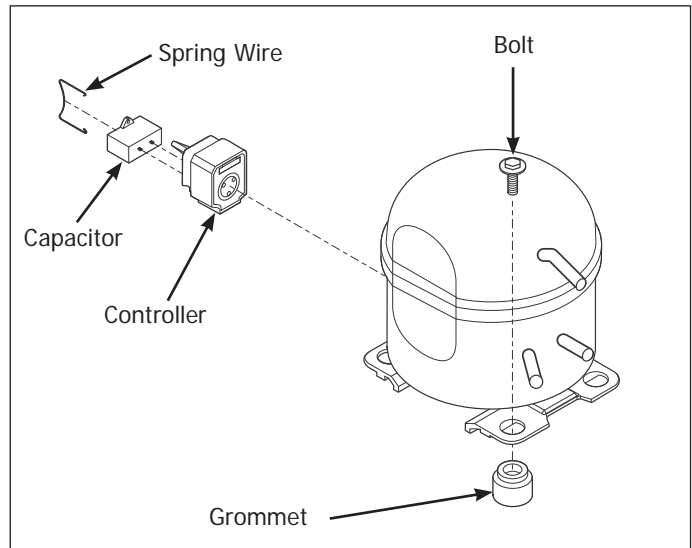

Figure 5-26. Compressor Components
The compressor sits on four grommets and is secured with four screws to the compressor mounting plate. (See Figure 5-26)
6. Using a 7/16" socket, remove the (4) bolts, one in each corner, holding the compressor to the base. (See Figure 5-26)